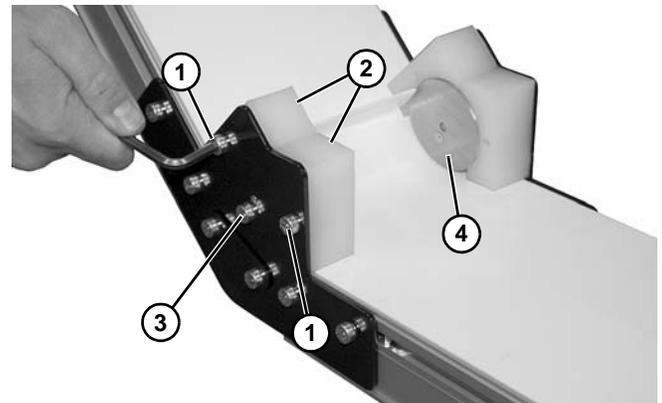

Figure 61
- If equipped with a lower knuckle, remove screws (**Figure 61, item 1**) and remove guards (**Figure 61, item 2**) on both sides of knuckle.
- Remove screws (**Figure 61, item 3**) and remove roller bearing assembly (**Figure 61, item 4**) on both sides of knuckle.